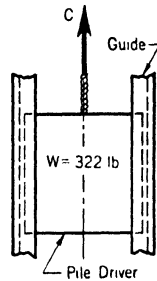

FIG. 401. FORCE OF PILE DRIVER, PROBLEM 6
6. The pile driver of Fig. 401 is released and falls through a distance of 10 ft. to strike a pile. The constant resistance is 100 lb. and the force $C = 0$. With what velocity does it strike the pile?